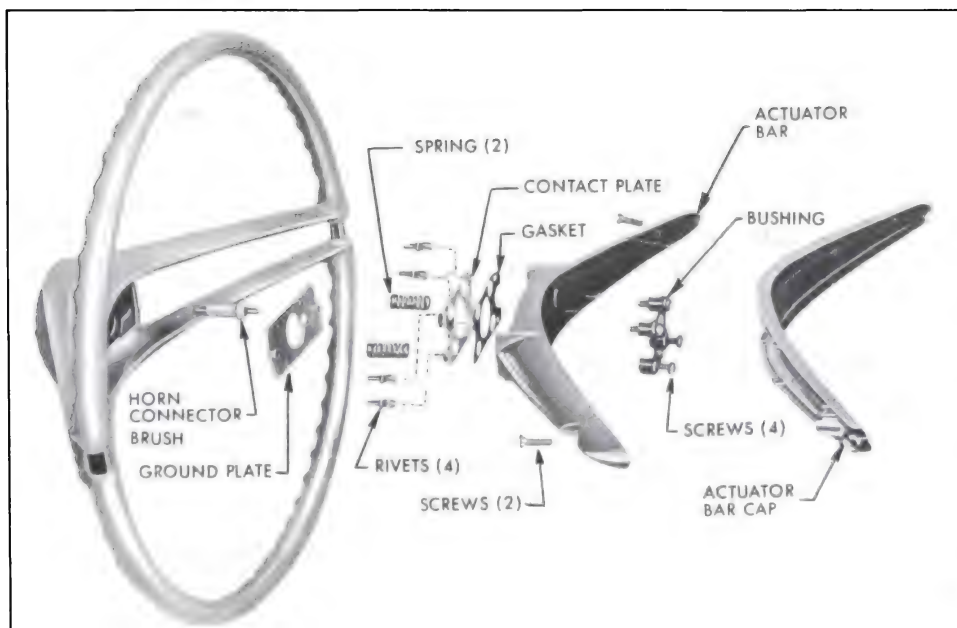

Figure 8-6—Steering Wheel Assembly
4. Remove cap from steering wheel. See Figure 8-6.
2. Remove actuator cap, actuator bar, springs and ground plate from steering wheel. See Figure 8-6.